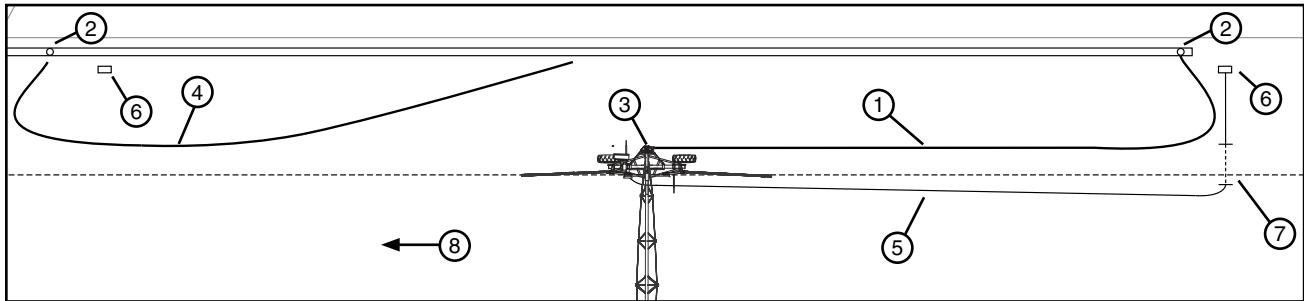

Figure 46-1 1. First Hose 4. Second Hose 7. Buried Power Cable
18. When the machine reaches the end of field/hose stop. Close the water shut off valve for the first hose. See figure 46-1.